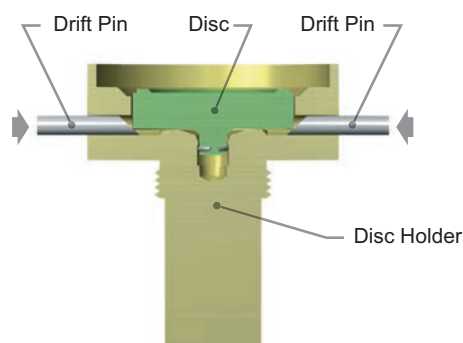

Figure 18: Removing the Disc with Drift Pins
- Start inserting special drift pins into the holes in the disc holder (see Figure 18) with the tapered portion of the pins working against the top of the disc, as indicated.